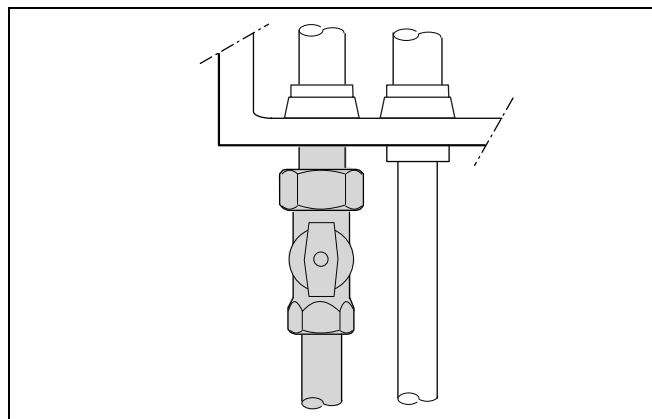

fig. 7 Gas connection
- Connect the boiler to the gas supply in accordance with the relevant standards. Fit the supplied service valve in the gas feed line. Connect the pipe free of tension (fig. 7).